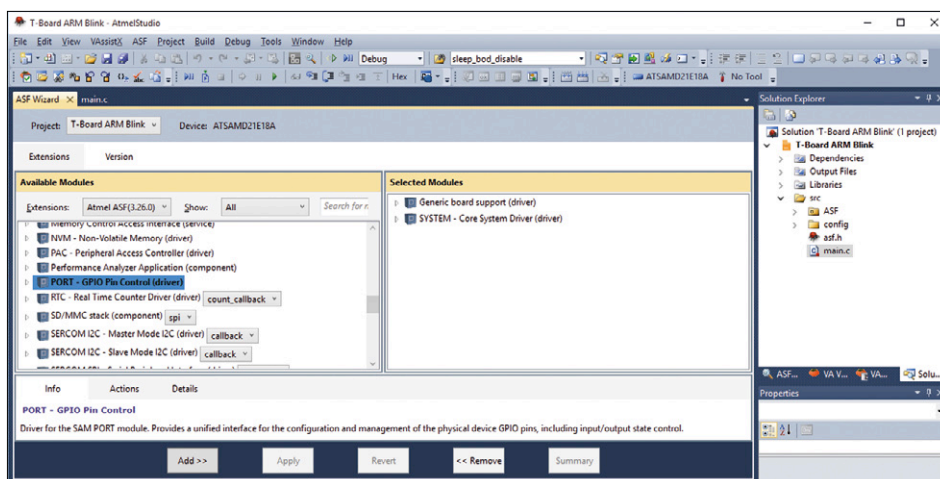

Figure 6. Here you add the PORT driver.
5. On the popup dialog (**Figure 6**) you’ll see available modules on the left, and selected modules on the right. Scroll down the left and highlight *PORT – GPIO Pin Control (driver)*, then click Add and Apply. You’ve now added the PORT driver to your project.